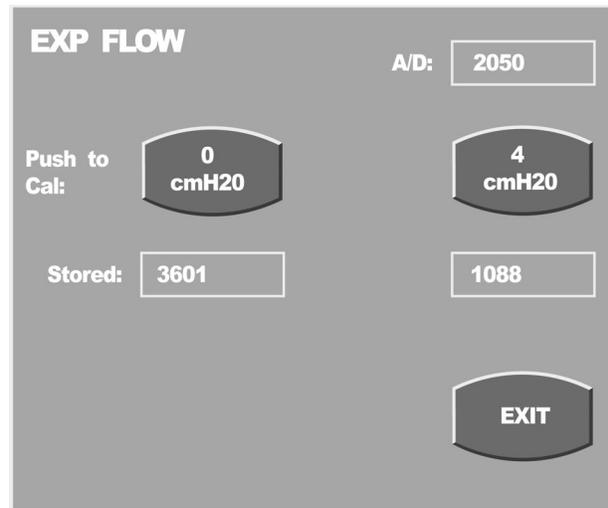

Figure 7.17 Expiratory Flow Calibration Screen
1. Press the EXP FLOW touch screen button to access the screen, see figure 7.17.